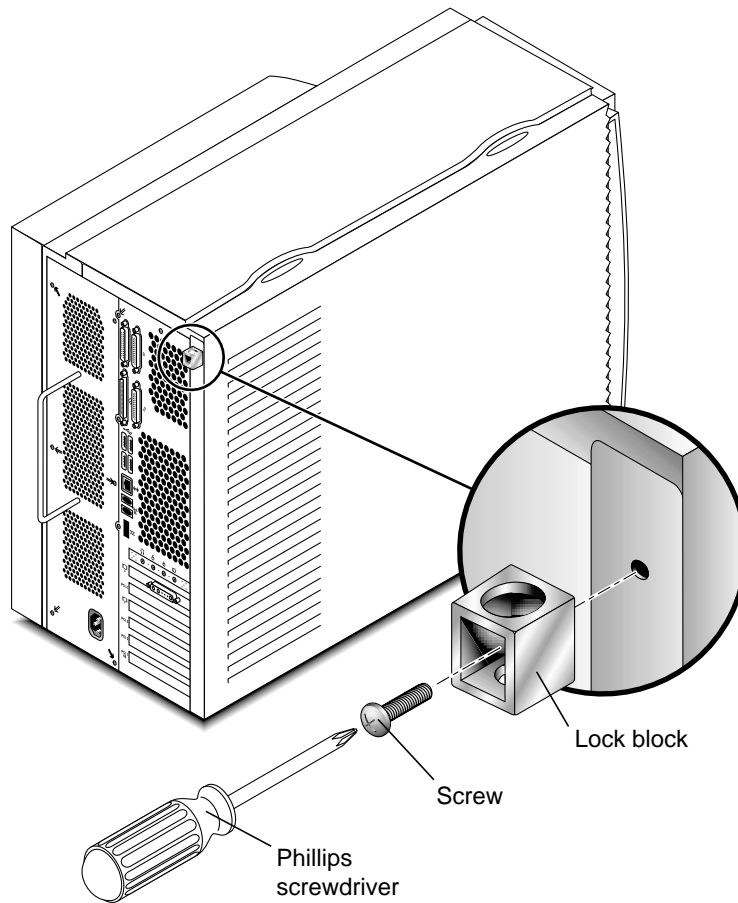

FIGURE 3 Removing the Lock Block
5. Remove the lock block, if one is installed (see FIGURE 3).